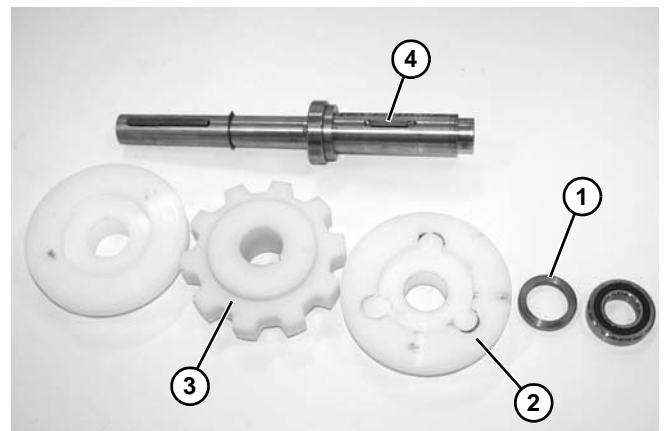

Figure 47
8. Remove spacer (Figure 47, item 1), support wheel (Figure 47, item 2), sprocket (Figure 47, item 3), and shaft key (Figure 47, item 4) from spindle shaft.